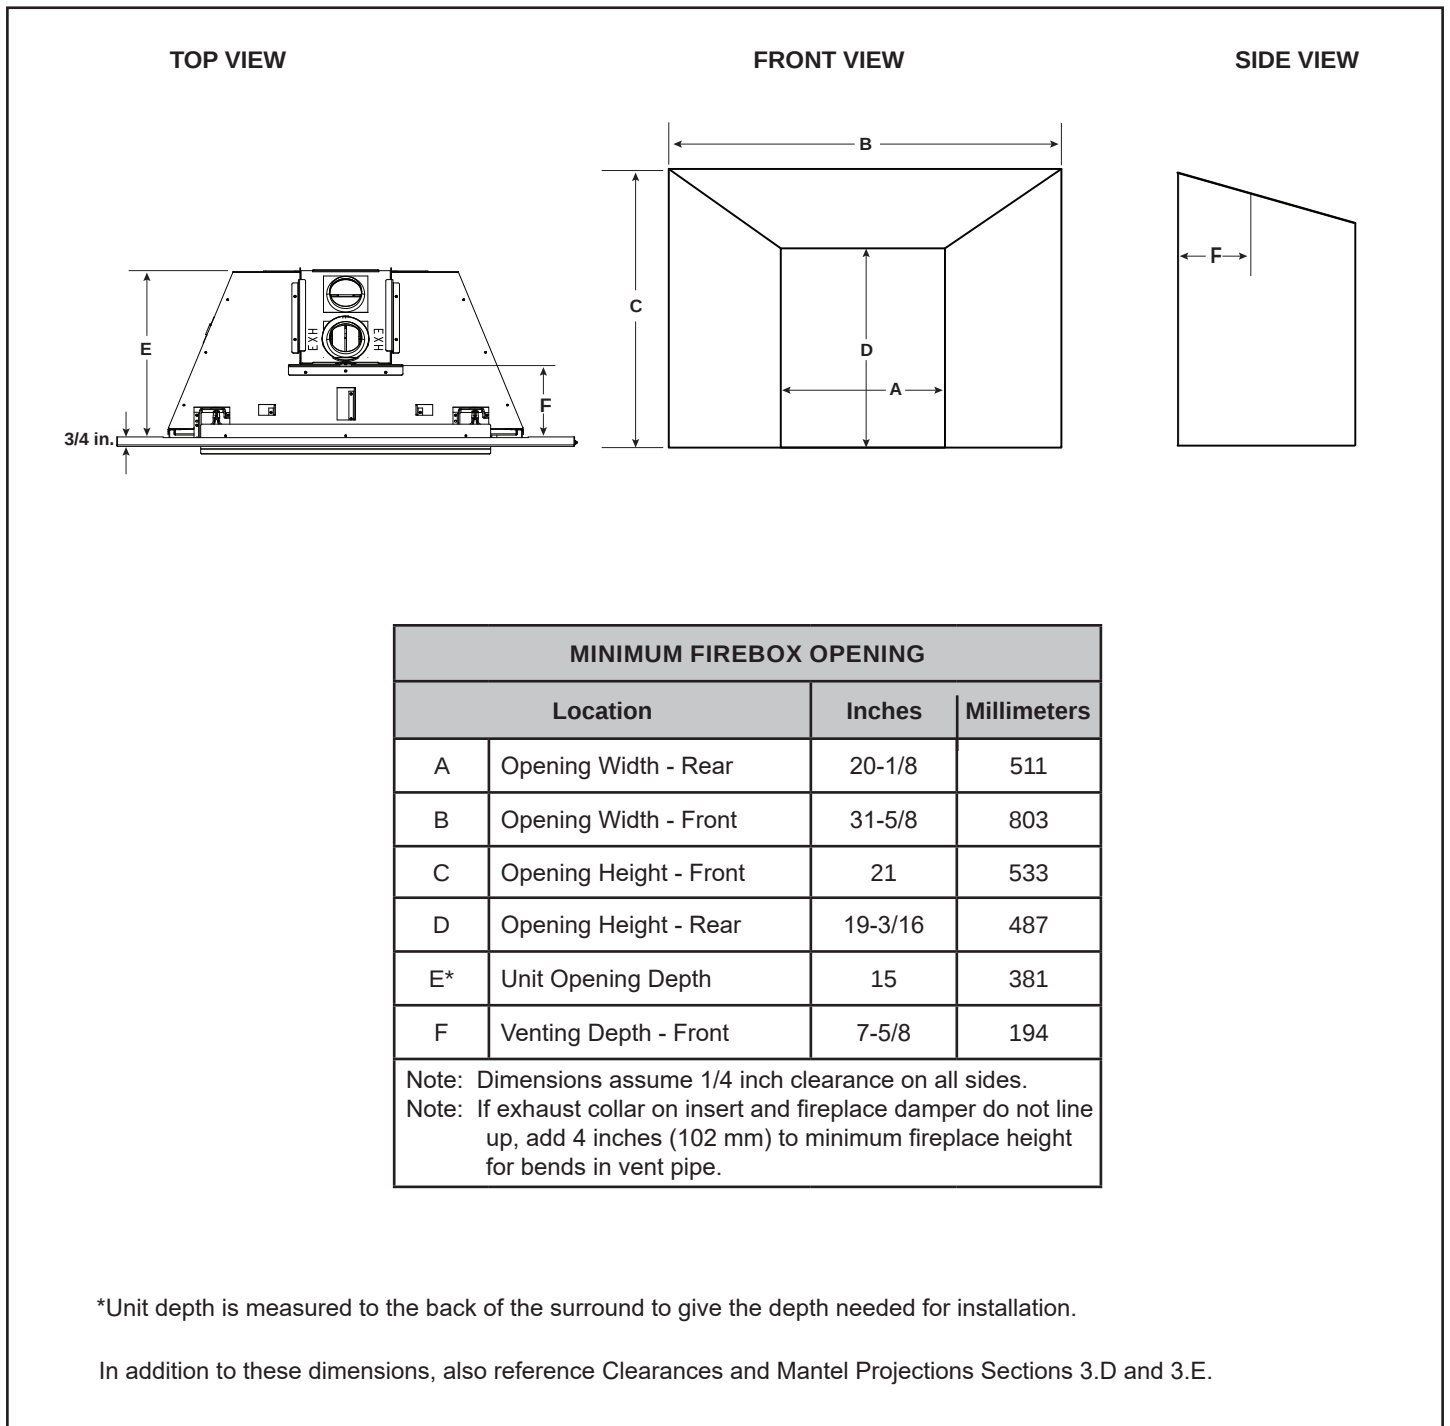

Figure 3.6 Firebox Opening - Standard Surround - 3/4 in.
***Note:** Location G is the appliance depth measurement, for installation depth reference Location E on Figure 3.6.
Minimum fireplace opening requirements for a standard 3/4 inch deep surround and deep flush surround are shown in Figure 3.6. Unit opening size is the same for both standard surrounds.